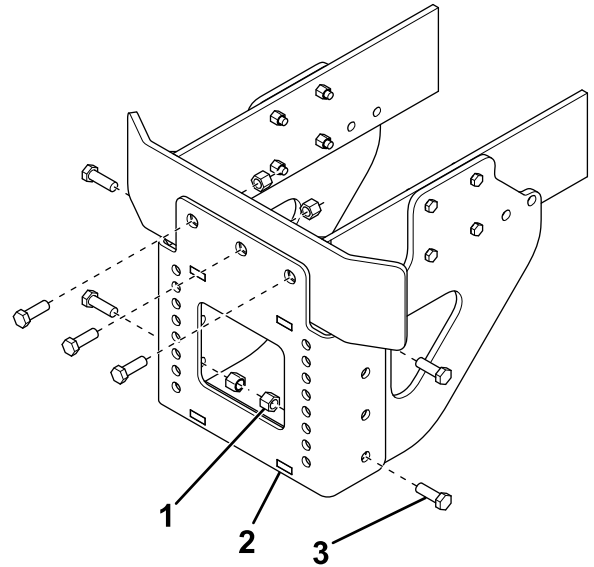

**Figure 3**
4. Install the 2 bolts and nuts previously removed, as shown in Figure 3.